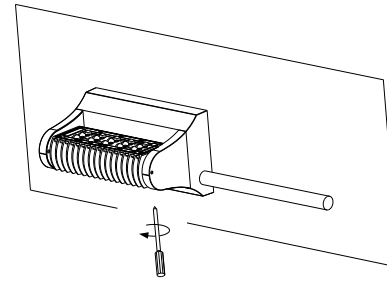

Figure 11
5. Tighten the pipe on the luminaire; adjust viewing angle and tighten screws. (Figure 11)